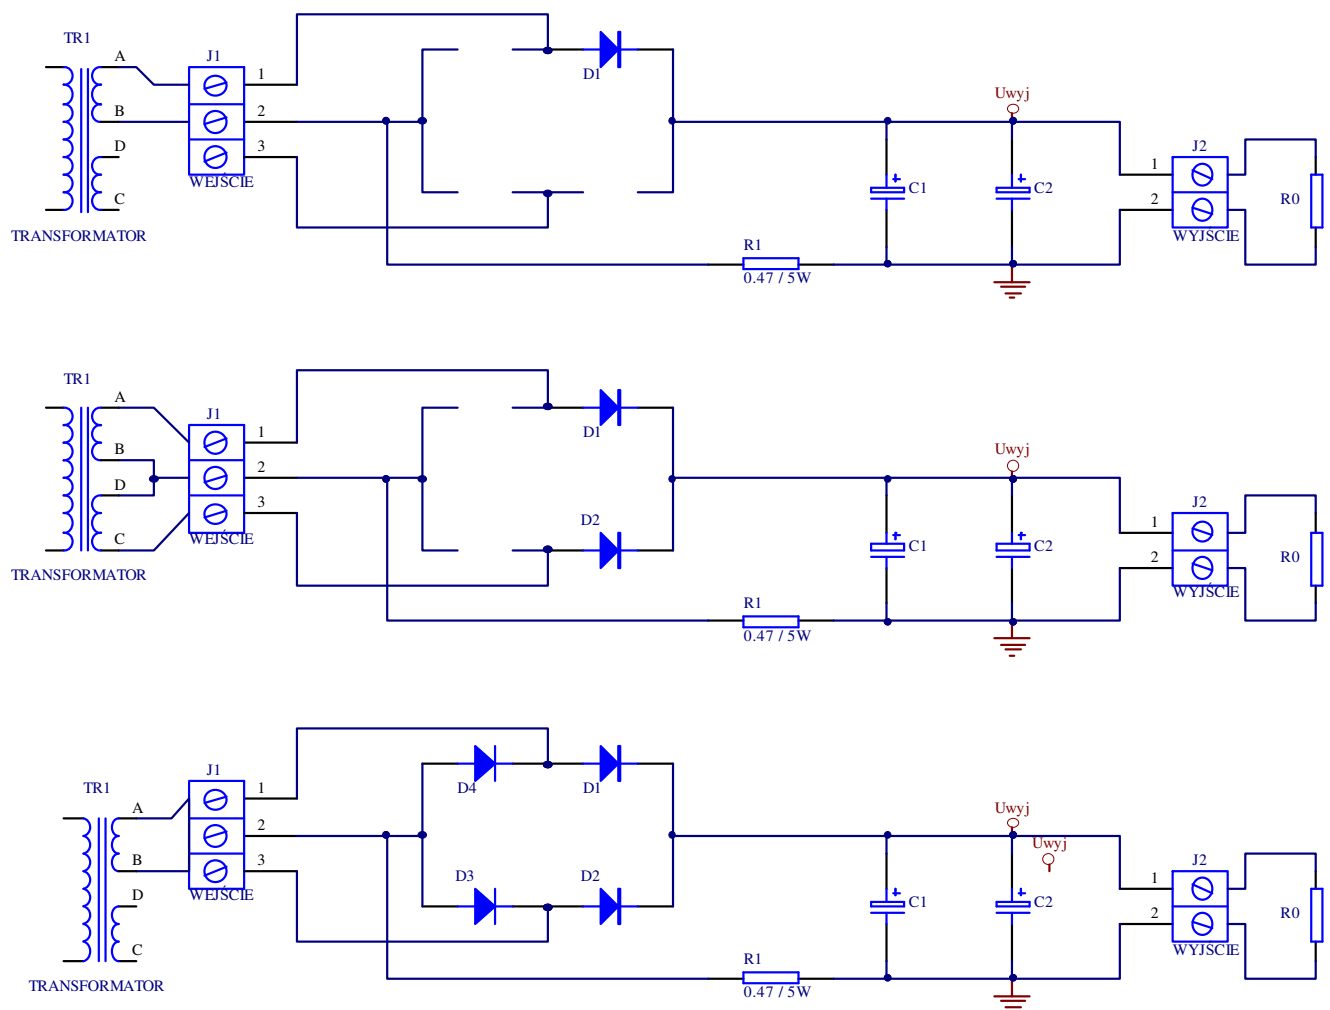
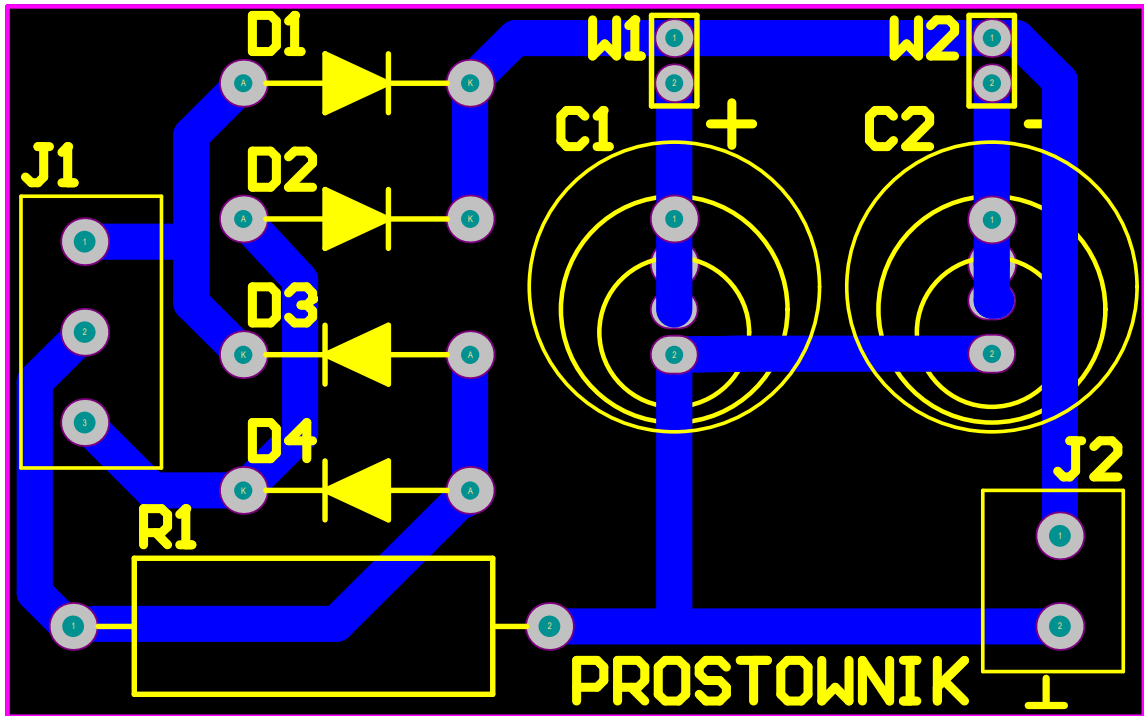

Fig.1. Schematic of rectifiers under consideration:
Fig.2. PCB of rectifiers. All of rectifiers described can be assembled on the PCB. Elements view.
The schematics of rectifiers are shown in Fig.1. Each type of rectifier (half-wave, full-wave with center-tap transformer, bridged) can be assembled on the PCB shown in Fig.2. Connection of the transformer and the rectifier input are shown in Fig. 1. The load is in the form of a high power resistor.
*Note: in calculations, to internal transformer resistivity one should add current shunt resistor ( $R_1 = 0.47 \Omega$ , see Fig.1)*